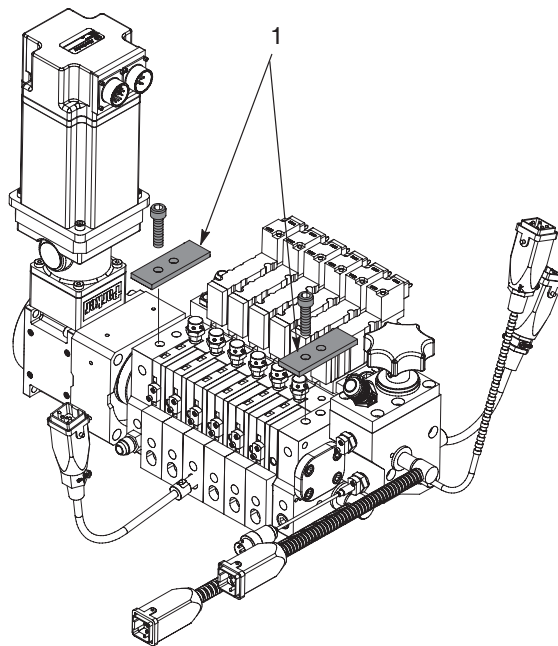

Figure 3-1 Mounting the applicator
4. See Figure 3-1. Mount the applicator on the production line using M8 bolts in the mounting holes in the end slices. Be sure to install the insulators.